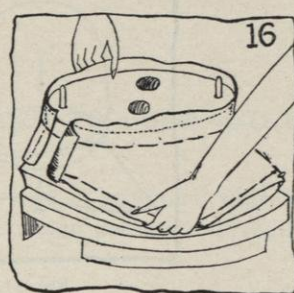

FIG. 16.
- c. Put a pin in the front of the brim near the edge (see Figure 16).
- d. Lift brim from block (see Figure 16).